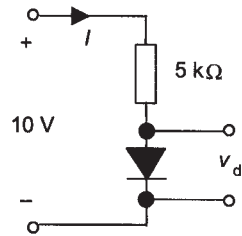

Figure 13.14 *Problem 3*
- 3 For the circuit shown in Figure 13.14, the diode has an a.c. resistance of 10Ω at the nominal current of 1 mA. What will be the change in